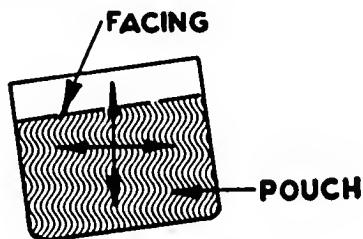

**Fig. 113.** A slanting pocket.
- For a slanting pocket, cut two pieces of material 2 in. wider than the mouthline, following the grain of the pocket flap (Fig. 113).